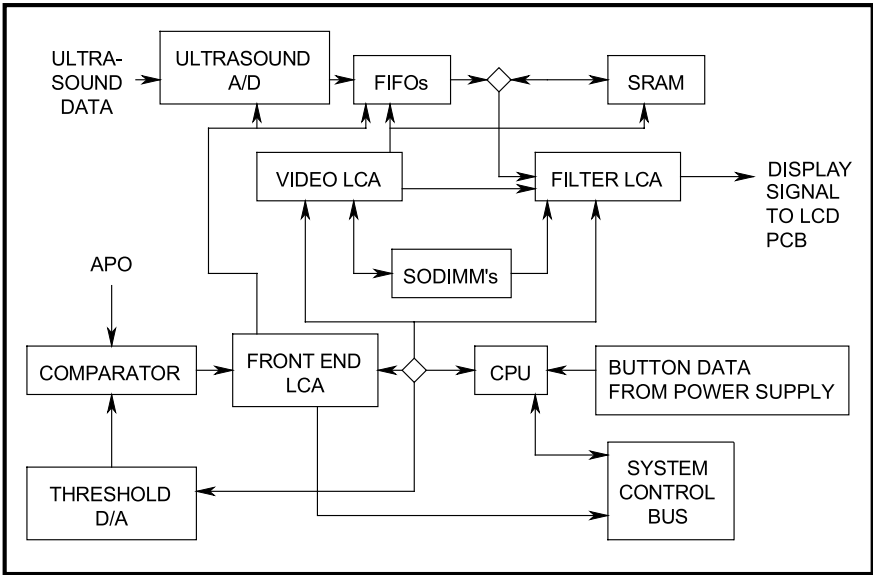

Figure 6 - Digital PCB Flow Chart
**Note:** The SODIMM's pictured in Figure 6 are located within the SODIMM Module.